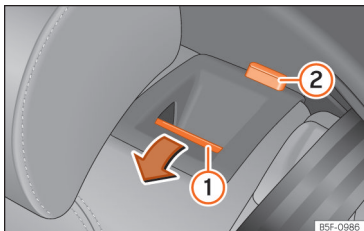

Fig. 161 On the rear seat backrest: release button ①; red mark ②.
- Push the unlock button »» Fig. 161 ① forwards and at the same time lift the backrest.
- The rear seat backrest is not engaged when the red marking of the button ② is visible.
The rear seat backrest is not engaged when the red marking of the button »» Fig. 161 ② is visible.